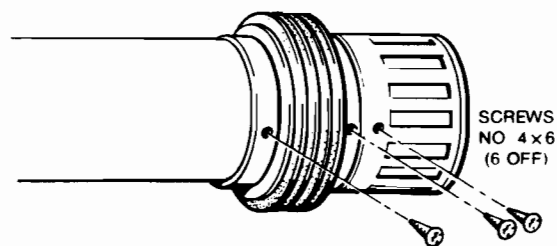

FIG. 21
- d) Drill two 2mm dia holes using the pre-drilled holes in the terminal as a guide into the air duct, and secure with the screws provided (see Fig. 21).
- e) Slide the duct sealing ring and the two retention rings into position, so that the assembly butts up against the flue terminal. Hold the duct retention ring in this position, and drill two fixing holes 2mm in dia through each ring, using the pre-drilled holes in the retention ring flange, as a guide, secure with the four screws provided (see Fig. 21).